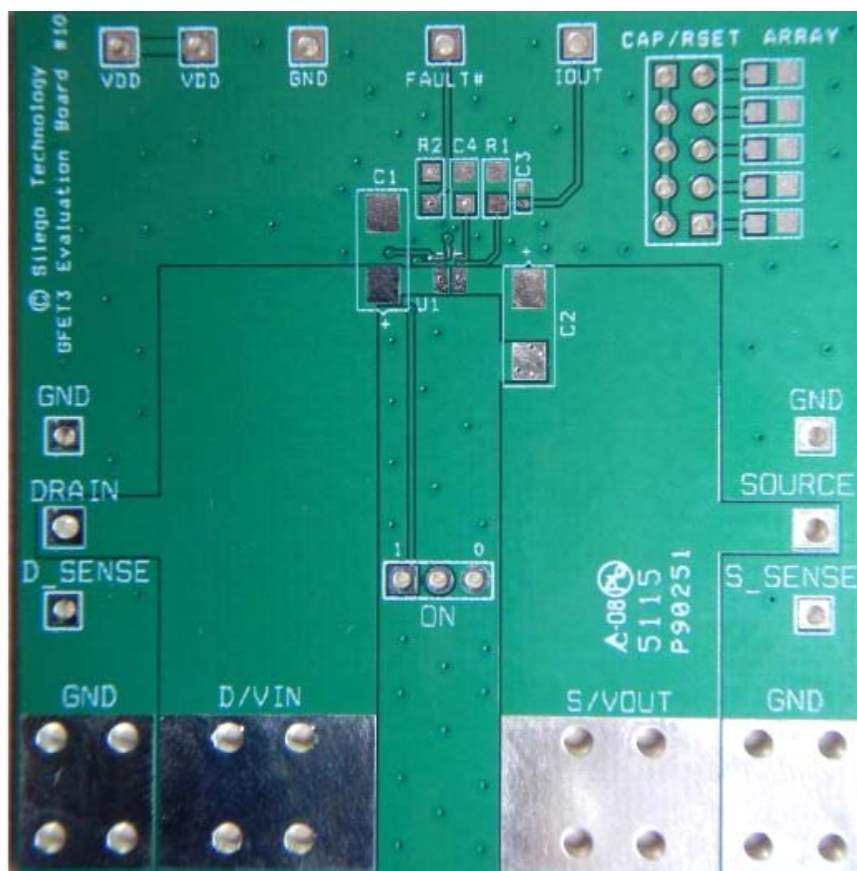

Figure 1. SLG59M1714V Evaluation Board
2. Since the VIN and VOUT pins dissipate most of the heat generated during high-load current operation, it is highly recommended to make power traces as short, direct, and wide as possible. A good practice is to make power traces with an absolute minimum widths of 15 mils (0.381 mm) per Ampere. A representative layout, shown in Figure 1, illustrates proper techniques for heat to transfer as efficiently as possible out of the device;
A GFET3 Evaluation Board for SLG59M1714V is designed according to the statements above and is illustrated on Figure 1. Please note that evaluation board has D_Sense and S_Sense pads. They cannot carry high currents and dedicated only for RDS_{ON} evaluation.